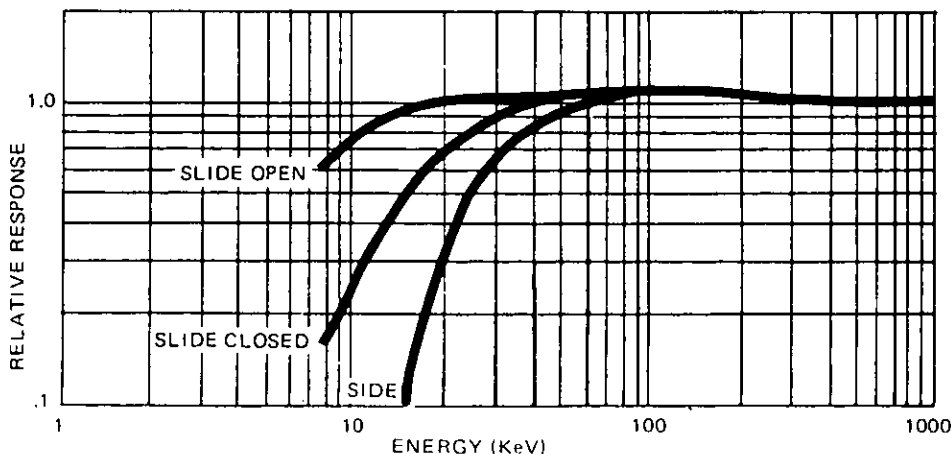

Figure 1-2. Nominal Photon Energy Response
g. Photon Energy Response: Nominal  $\pm 15$  percent from 12 keV to more than 1.3 MeV. (See Figure 1-2.)
(1) Uranium Slab: 33 percent of true mrad/h field behind 7 mg/cm2 window with RO-2 resting on slab, slide open.